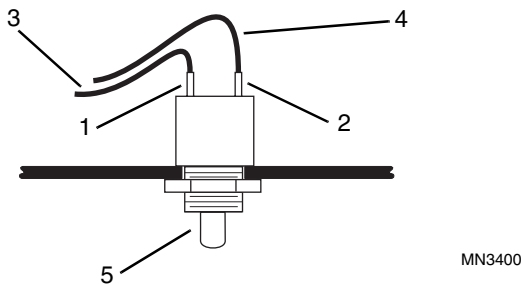

Figure 8-41 Loader Arm Reset Switch Testing
3. Tag and disconnect dark blue wire #86A (Fig. 8-41, 3) and red/black wire #30A (4) from reset switch (5) terminals.
4. Use an ohmmeter or a continuity tester to test the reset switch for continuity at the switch terminals (Fig. 8-41, 1 & 2) as follows:
5. Replace the reset switch (Fig. 8-41, 5) if it fails either test in the table above.